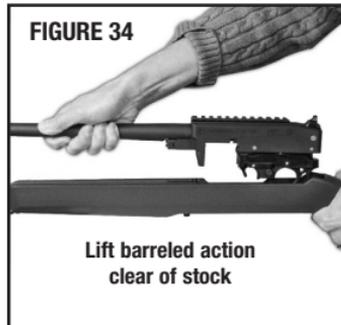

FIGURE 34
- Once barreled action is clear of the stock (FIGURE 34), place the safety button in the SAFE position.